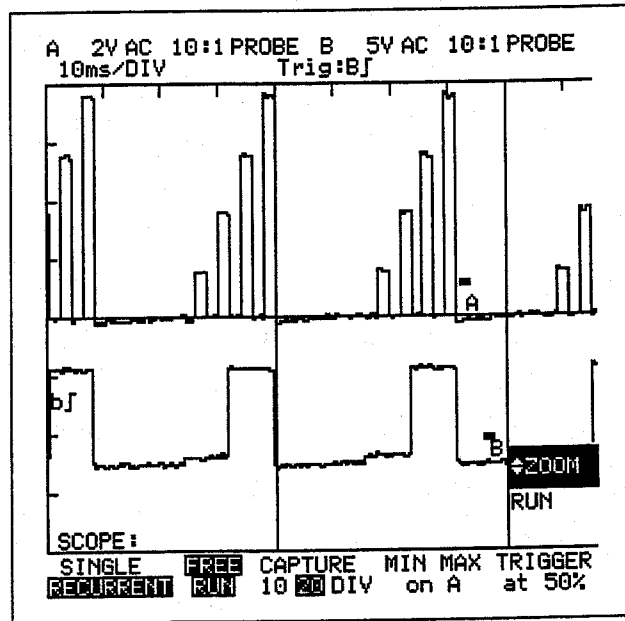

Figure 6.9
- Use **MOVE** **MOVE** to position the channels on screen (see Figure 6-9).